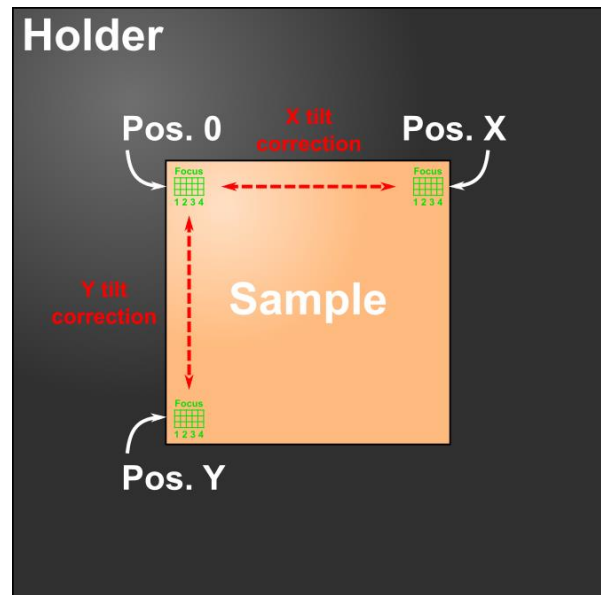

Figure 33 - Tilt correction principle
- Position the top left corner of your sample under the projected amber light using the **XY stage control interface** (section 4.1.1). This position corresponds to the pivot point of the tilt platform (Figure 33).
- corner of your sample (Figure 33). Save the position and rename it by Pos. Y.
- From position Pos. 0 move along the X axis to position the projected image on the top right corner of your sample (Figure 33). Save the position as Pos. X.